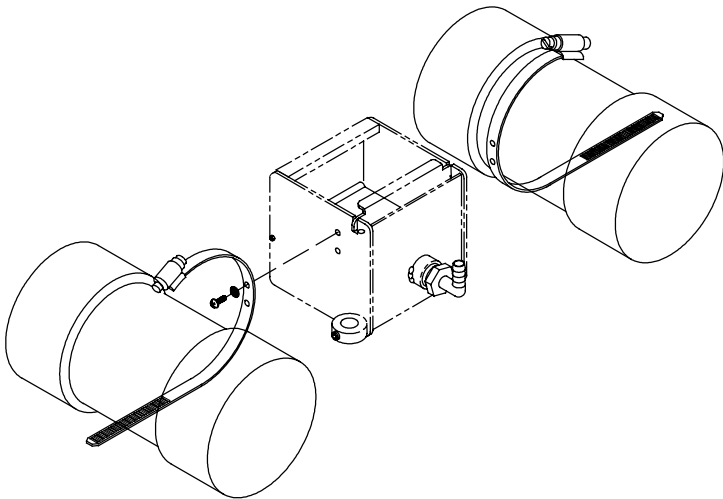

Figure 3
2. Install the two Skimmer Float Tube Assemblies (part no. 6918) in the clamps and secure. (See Fig. 3)